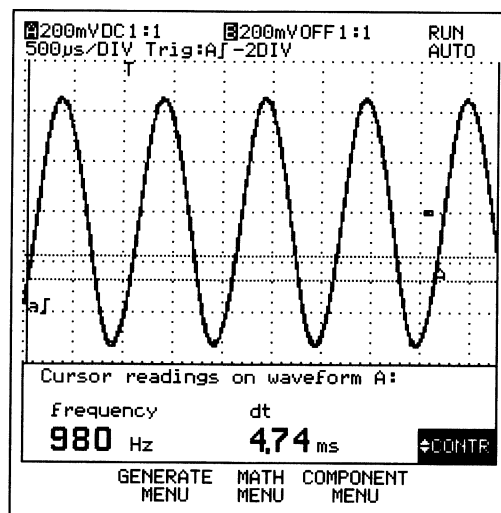

Figure 4.13 Generator sine wave signal.
- K The display will look like figure 4.13. The generator must produce a sine wave signal with an amplitude of 1V and a frequency of 976 Hz (typical values).